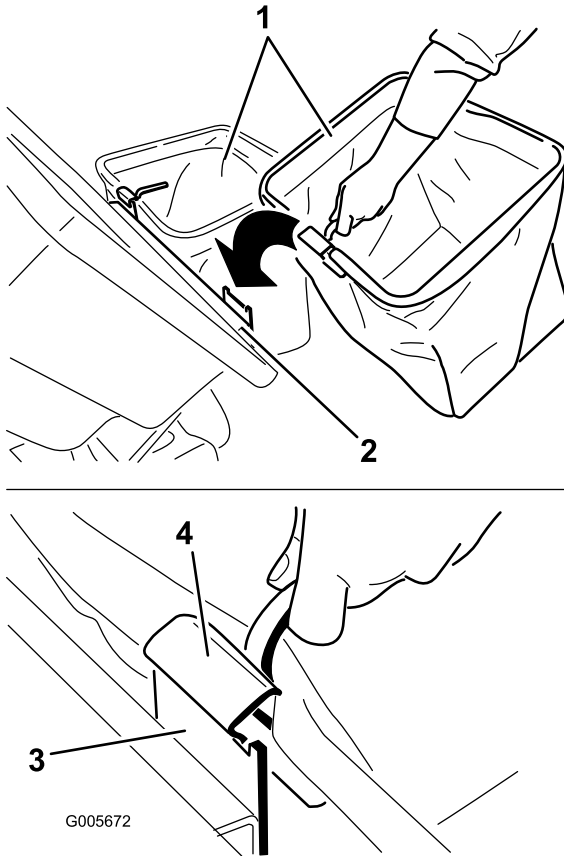

Figure 9
2. Lift the bagger top and install the bags by sliding the bag frame hooks onto the retaining brackets (Figure 9).